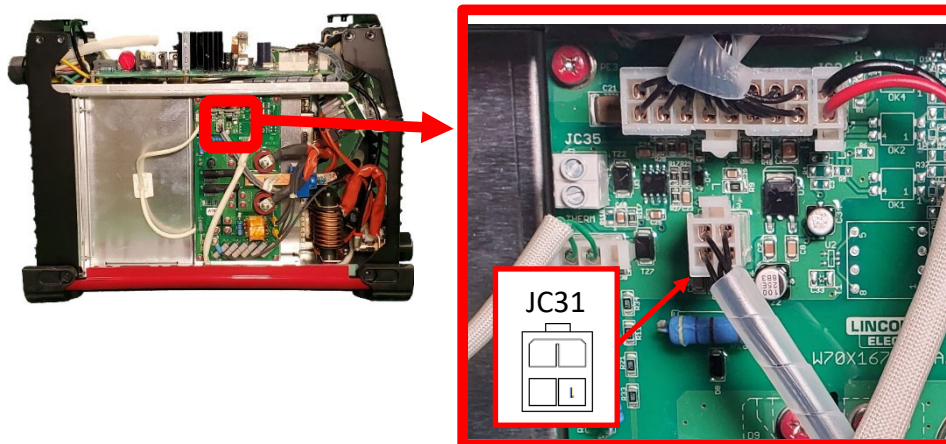

Figure F.3
A.3. Perform the measurements in Test Table 1 below, refer to Figure F.3 for test point locations.